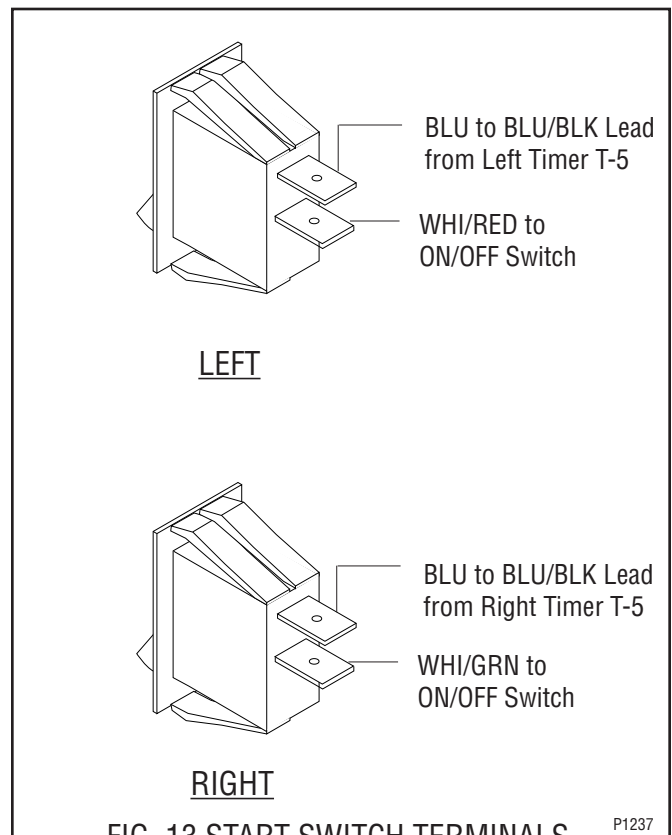

FIG. 13 START SWITCH TERMINALS
8. Refer to Fig. 13 when reconnecting the wires.